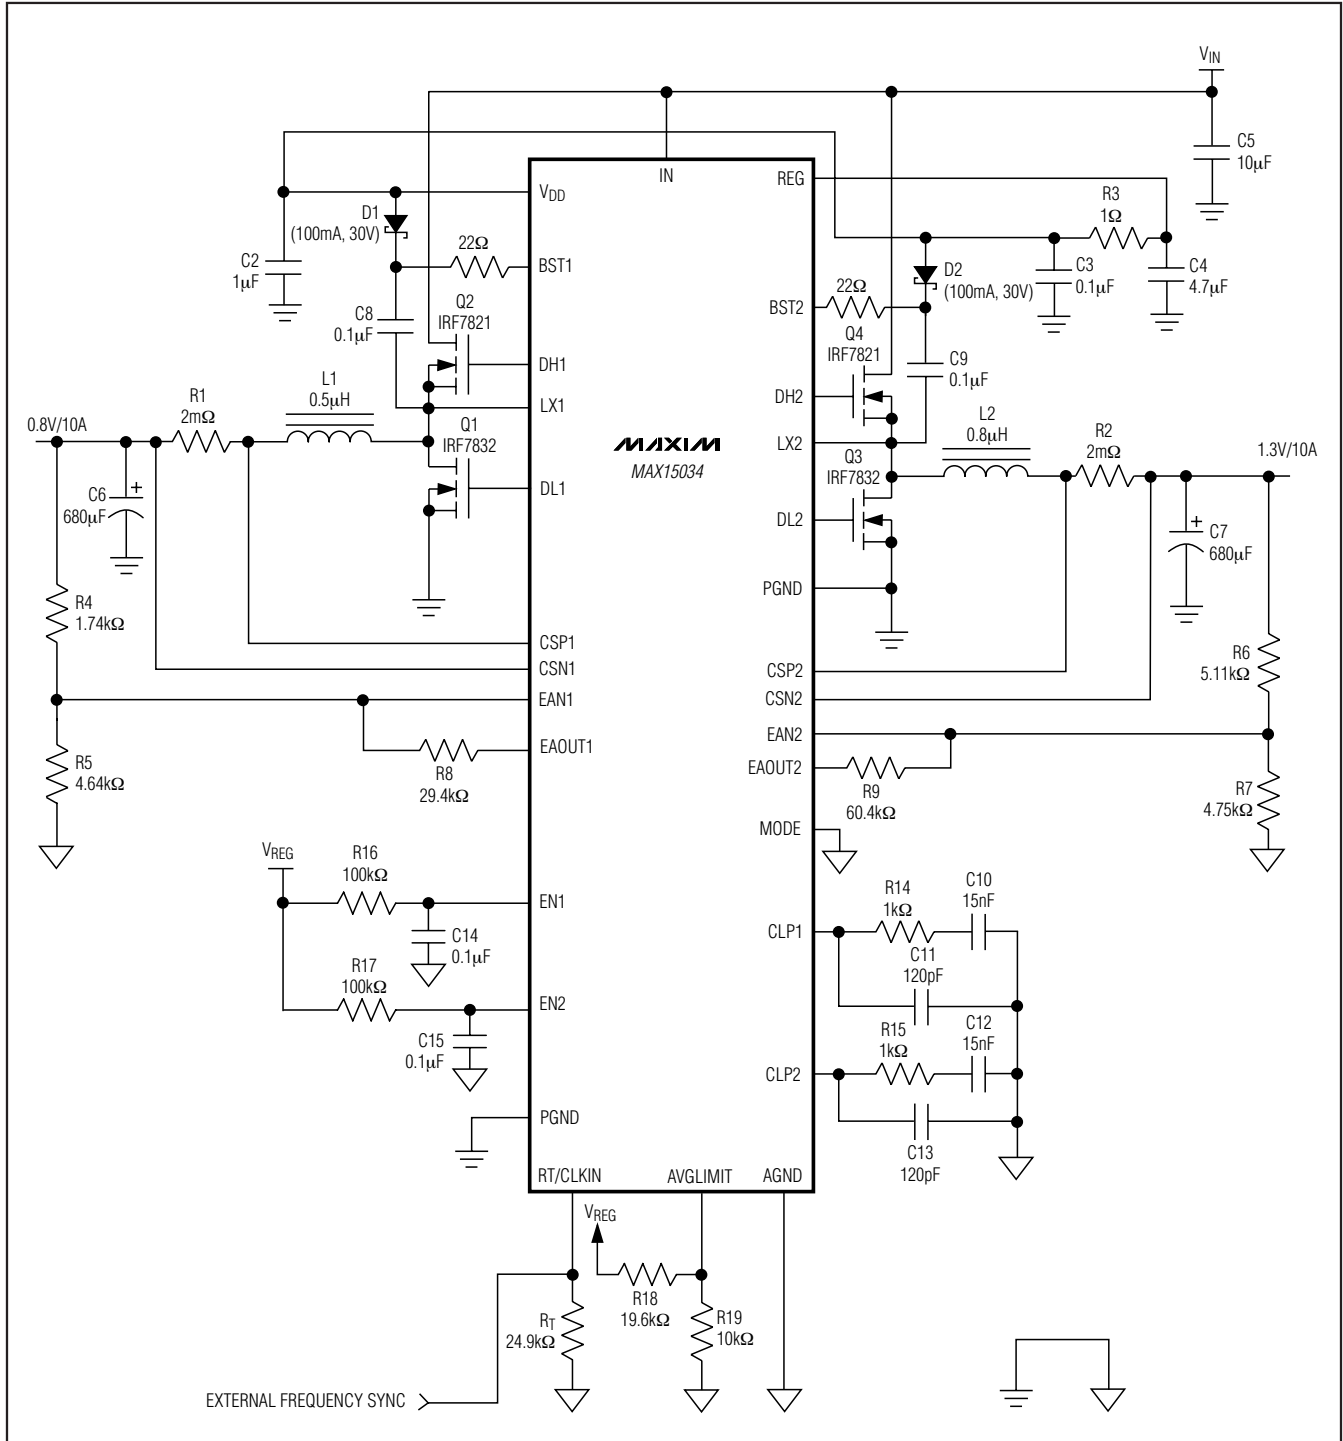
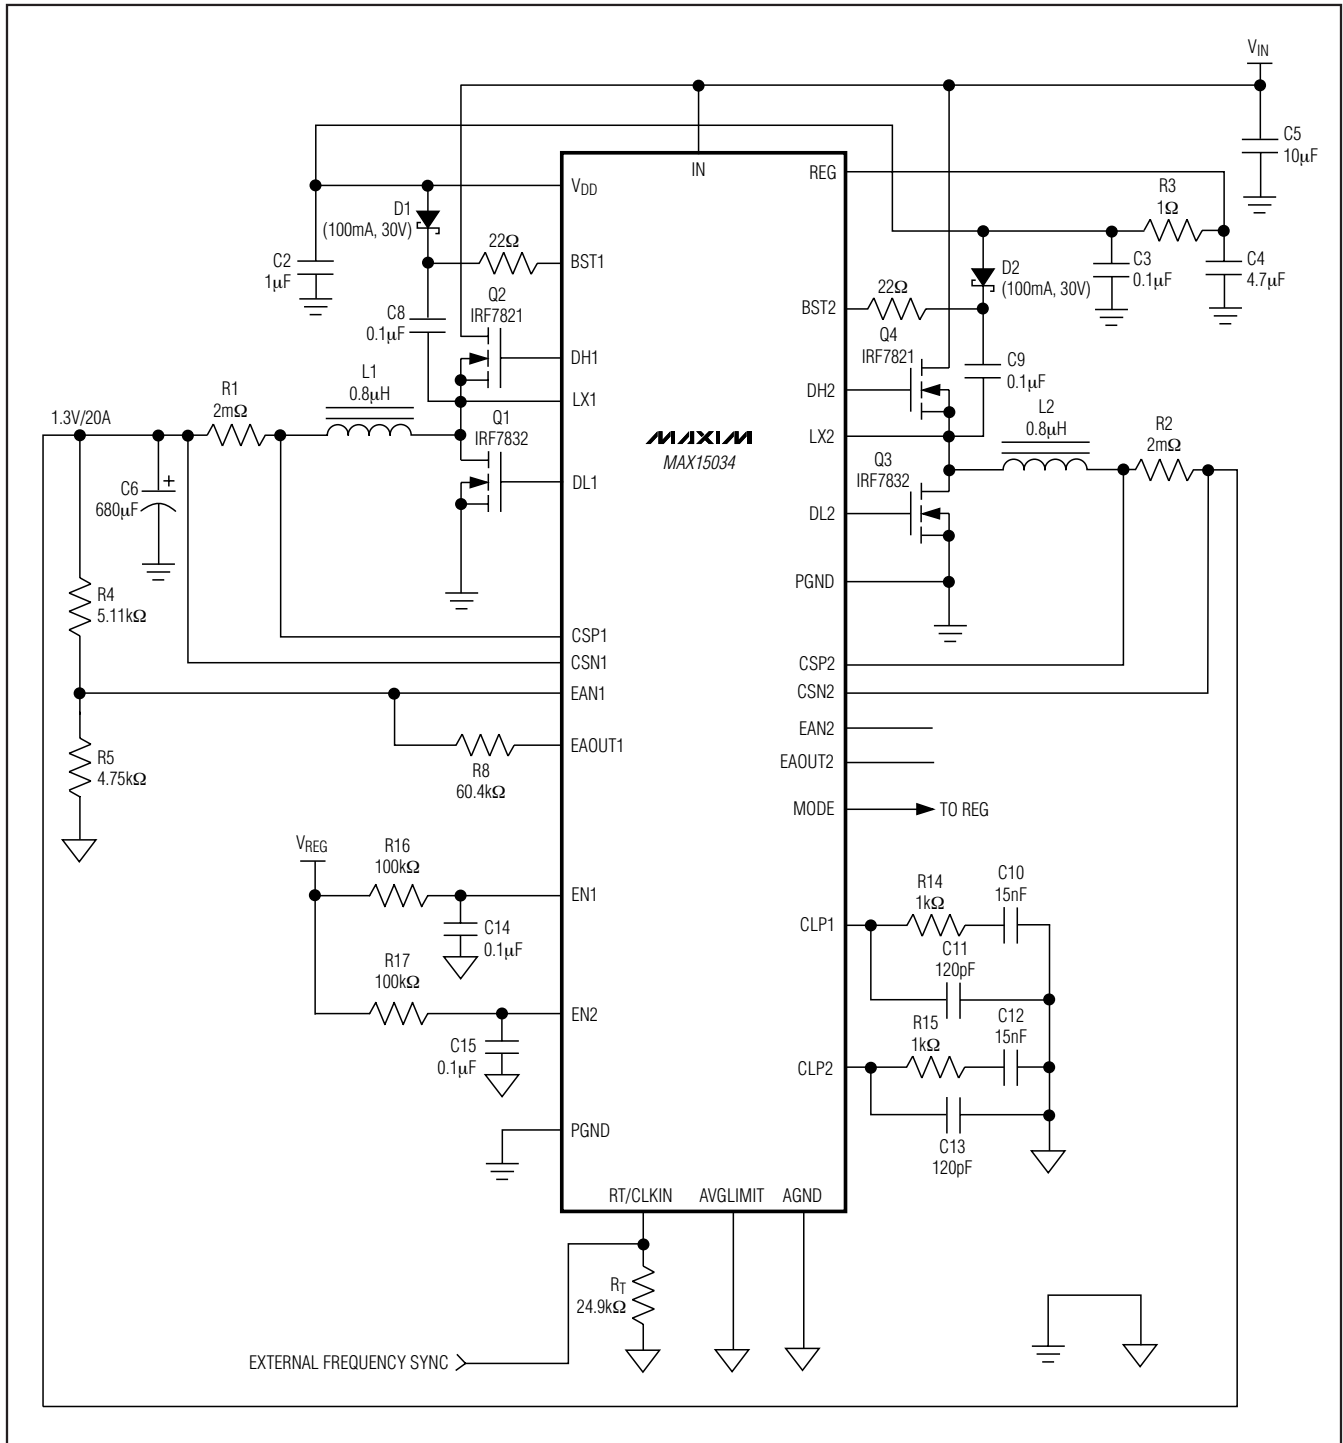

Figure 6. Dual-Output Buck Regulator
Figure 7. Dual-Phase, Single-Output Buck Regulator
where I_{IN} is the quiescent supply current into IN (4mA, typ), Q_{GQ1} , Q_{GQ2} , Q_{GQ3} , Q_{GQ4} are the total gate charges of MOSFETs Q1 through Q4 at $V_{GS} = 5V$ (see Figure 6), and f_{SW} is the switching frequency of each individual phase.
BST1 and BST2 supply the power for the high-side MOSFET drivers for output 1 and output 2, respectively. Connect BST1 and BST2 to VDD through rectifier diodes D1 and D2 (see Figure 6). Connect a 0.1µF ceramic capacitor between BST_ and LX_.
Minimize the trace inductance from BST_ and VDD to the rectifier diodes, D1 and D2, and from BST_ and LX_ to the boost capacitors, C8 and C9 (see Figure 6). This is accomplished by using short, wide trace lengths.
The compensation network at the current-error amplifiers (CLP1 and CLP2) provides an inherent soft-start of the output voltage. It includes (R14 and C10) in parallel with C11 at CLP1 and (R15 and C12) in parallel with C13 at CLP2 (see Figure 6). The voltage at the current-error amplifier output limits the maximum current available to charge the output capacitors. The capacitor at CLP_ in conjunction with the finite output-drive current of the current-error amplifier yields a finite rise time for the output current and thus, the output voltage.
An internal oscillator generates the 180° out-of-phase clock signals required for both PWM modulators. The oscillator also generates the 2Vp-p voltage ramps necessary for the PWM comparators. The oscillator frequency can be set from 200kHz to 2MHz by an external resistor (RT) connected from RT/CLKIN to AGND (see Figure 6). The equation below shows the relationship between RT and the switching frequency:
cycle is less than 50%, choose high-side MOSFETs (Q2 and Q4, Figure 6) with a moderate $R_{DS(ON)}$ and a very low gate charge. Choose low-side MOSFETs (Q1 and Q3, Figure 6) with very low $R_{DS(ON)}$ and moderate gate charge. The driver block also includes a logic circuit that provides an adaptive nonoverlap time (30ns typ) to prevent shoot-through currents during transition. Figure 7 shows the dual-phase, single-output buck regulator.
where I_{MAX} is the full load current of the regulator. V_{OUT} is the output voltage of the same regulator and C_{IN} is C5 in Figure 6. The ESR of the input capacitors wastes power from the input and heats up the capacitor. Reducing the ESR is important to maintain a high overall efficiency and in reducing the heating of the capacitors.
where I_{LOAD_STEP} is the step in load current and $t_{RESPONSE}$ is the response time of the controller. Controller response time depends on the control-loop bandwidth. C_{OUT} is C6 and C7 in Figure 6.
where ΔV_{OUT} is the allowable drop in voltage from no load to full load. R_F is R_8 and R_9 , R_1 is R_4 and R_6 , R_2 is R_5 and R_7 in Figure 6.